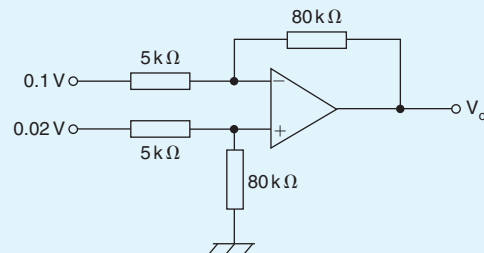

Figure 19.29
9. In the differential amplifier shown in Fig. 19.29, the output voltage,  $V_o$ , is: